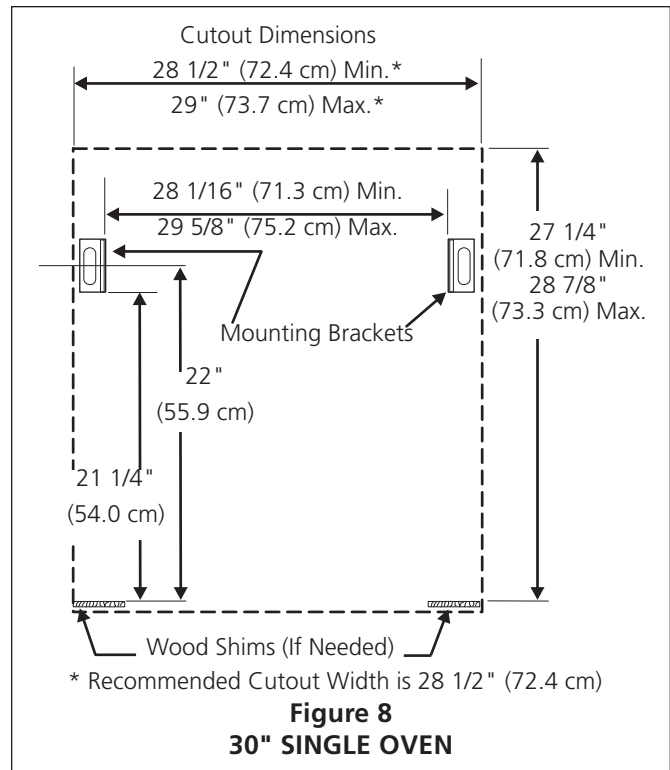

Figure 8
2. The mounting brackets are temporarily installed under the decorative side trims of the oven when shipped (see Figure 8 or 9). Remove the mounting brackets from the unit side frame using a No. 2 Robertson® screw driver (square drive preferred, however a No. 2 Phillips® or Quadrex® screw driver can also be used). Open the door to remove the screws, located at the upper end of the side trim.
3. Insert the unit into the cabinet opening. Slide unit inward leaving $1 \frac{3}{8}$ " (3.5 cm) clearance between the oven decorative trim and cabinet. Pull the armored cable through the hole in the floor and toward the junction box while moving the appliance inward. Use the second set of holes in the side frame of the unit as a guide to find the position of the mounting brackets on the sides of the cabinet opening. Mark the position of the mounting brackets as shown in Figure 8 or 9.